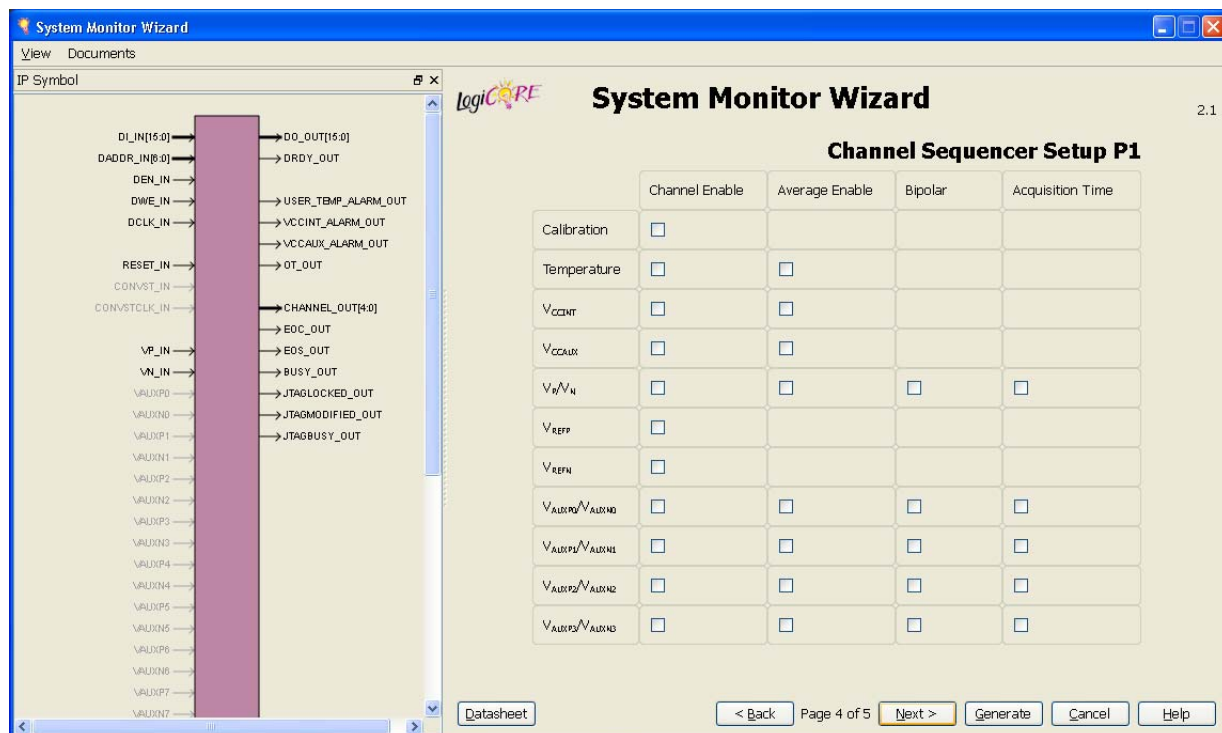
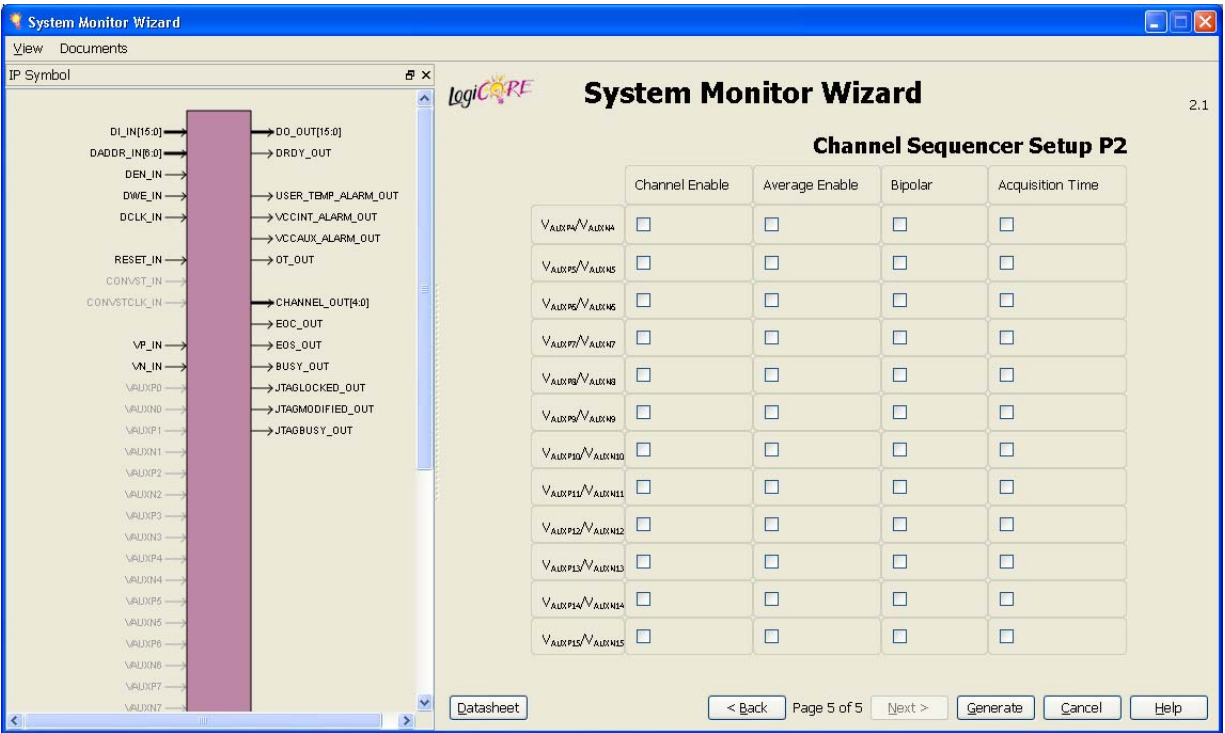

Figure 3-7: Channel Sequencer Setup P1 - Page 4
Figure 3-8: Channel Sequencer Setup P2 - Page 5
- **Channel Sequencer:** Choosing this mode, allows the user to select any number of channels to monitor. The channels to be used for this mode can be selected on Page 4 (Figure 3-7, page 27) and Page 5 (Figure 3-8, page 28) of the Wizard.
Channel Sequencer Setup P1 (Figure 3-7) and Setup P2 (Figure 3-8) screens of the Wizard are used to configure the Channel Sequencer. All the possible channels that can be included in the sequence are listed in the table spread across screens 4 and 5 (Figure 3-7 and Figure 3-8, page 28) of the Wizard: